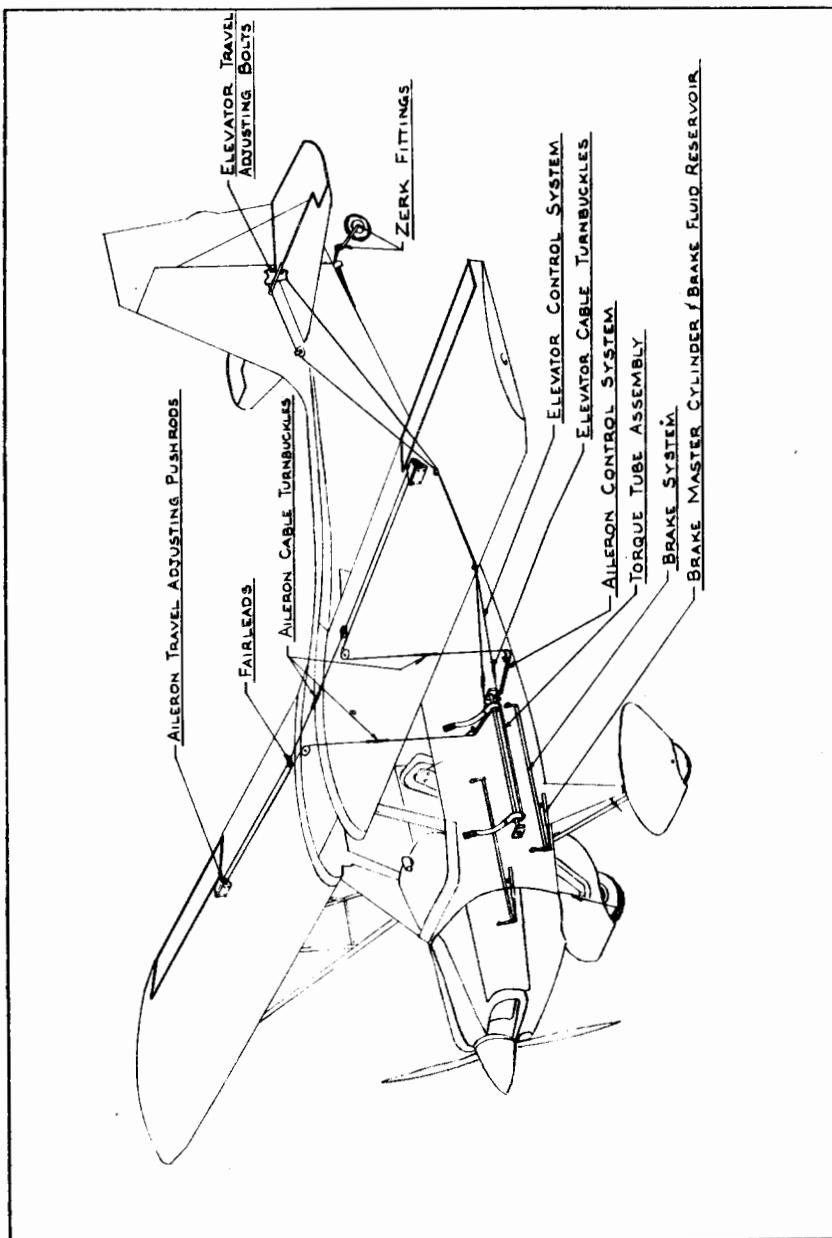

Figure 5.
1. **AILERON RIGGING.** Adjust aileron travel with the adjustable pushrod at the aileron. Adjust cable tension with ailerons in neutral, using turnbuckle in cabin. (See figure 5). Permissible aileron droop is 0 to 3/16 inch.
2. **ELEVATOR RIGGING.** Adjust elevator travel with stop bolts inside metal cover on vertical fin. Adjust cable tension with elevator down using the turnbuckles aft of the torque tube assembly. (See figure 5). Check for positive clearance between stick and front and rear seats.